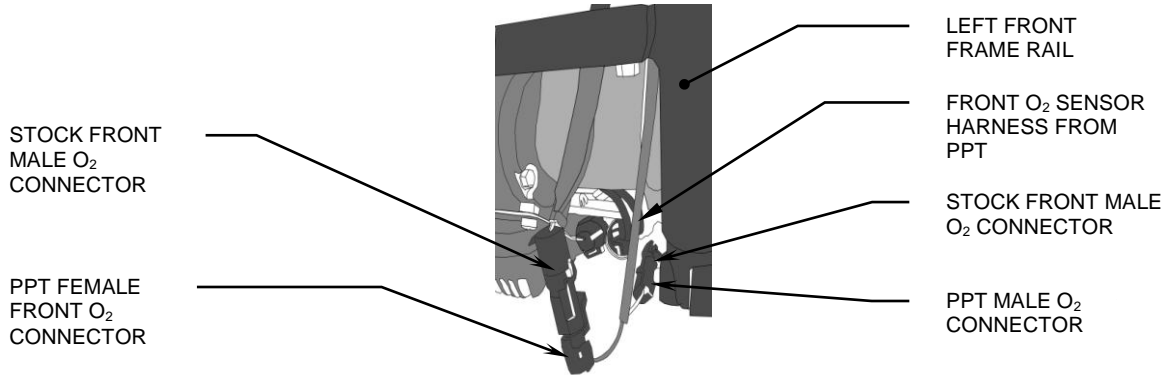

FIGURE 9
13. Route the longer harness with single pin connectors from the PPT up the left upper frame rail, route it over the engine and down the left front frame rail. Locate the front oxygen sensor connector and disconnect it from the O₂ sensor, it may be necessary to open up wire retaining ring for proper slack to work on connectors. Mate corresponding PPT female O₂ connector with the original male O₂ connector. Connect PPT male O₂ connector to original O₂ female connector on Victory harness, see Figure 9. Be sure to secure O₂ sensor connectors to wire loop retainer and secure PPT connectors to existing harnesses utilizing a supplied 8 inch zip tie. Install (2) 8 inch zip ties along the upper frame rail to secure harness to frame, and (1) along left front frame rail, Figures 10 and 11.